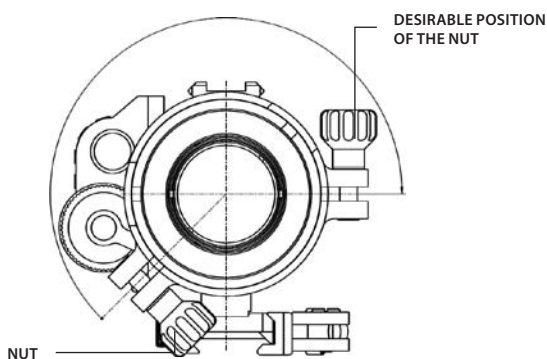

FIGURE 3-11. ESTIMATION OF THE ADAPTER TURNING ANGLE
1. Decide on desirable position of the nut and estimate the angle through which the adapter should be turned CW (see **Figure 3-11**).